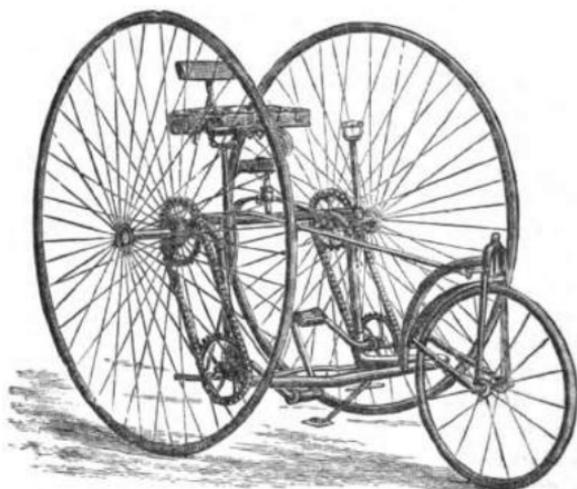

FIG. 2. THE DEVON TRICYCLE.
2. *The Devon Tricycle* (Exeter Bicycle and Tricycle Company, Exeter; London Show Rooms and Agents, Messrs. Maynard, Harris, and Company, 126, Leadenhall-street, E.C.).—This machine made its *début* in the metropolis at the show held in the Agricultural Hall last September, but the one then shown was merely a test, and, like most first attempts, was rather crude. Since then it has been vastly improved, and the manufacture undertaken in a regular way. As will be seen by the illustration (Fig. 2) the design is that of two large wheels side by side, with a pilot wheel in front, but it possesses a special feature of undoubted advantage. In most machines there is only one driving wheel, but by a patented arrangement both wheels are utilised for that purpose on the Devon, so that there is no loss of power. The wheels are generally 52in. in height, and have fifty-two (Coventry) direct action spokes, large at the head; a style peculiar to the city of wheels; the iron hubs are only 3½in. deep, but very broad, 6½in.; light crescent steel rims; and ½in. rubber tyres, cemented in. On the inside of the wheels, but not in any way attached to them, are two (one on each side) skeleton cog wheels, 8in. in diameter. It is the manner in which they work that forms the strong point of the Devon. Actually they are fitted loose on the axle, which has several (six) grooves cut in its face; whilst on the inside of the hub of the cog-wheel two pawls or picks are placed. When the wheel advances they catch in the teeth or grooves, and so propel it. Both sides act similarly. By this plan the wheels have an independent as well as a combined action, so that one may be lifted and spun in a reverse direction while the other is at rest or being turned the opposite way. This allows a turn